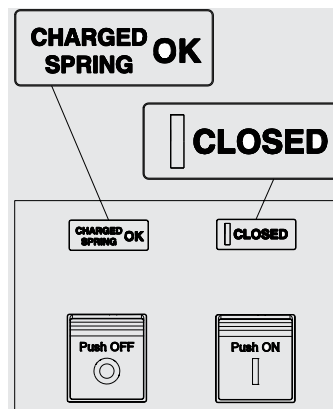

Figure 52
4. Circuit-breaker closed with springs charged (see Figure 52). This state occurs when after closing (see step 4 - Figure 52) the springs are recharged manually or automatically by the gearmotor (if provided).